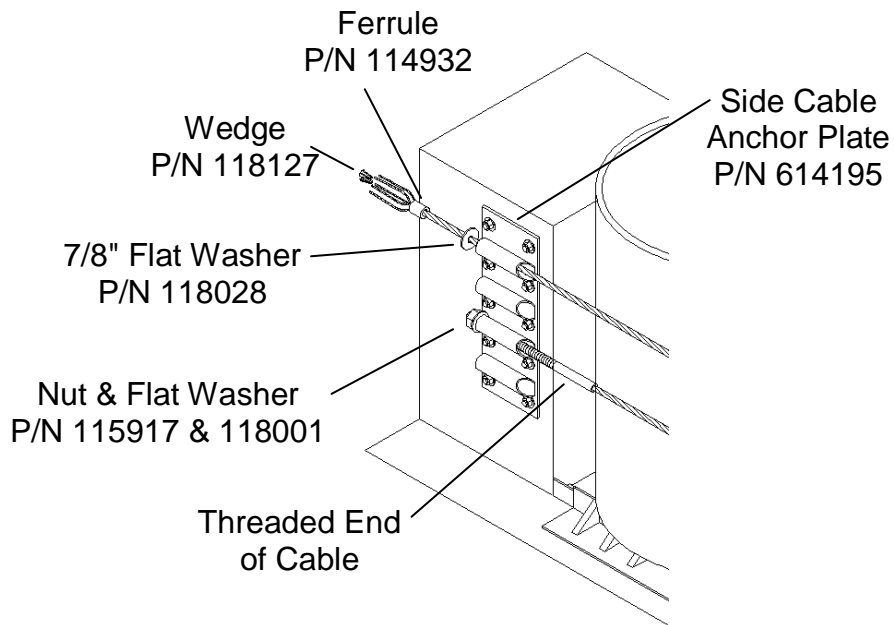

Figure 20
- A. Slide the threaded end of a Restraining Cable through the third guide down and install flat washer and nut as shown in Figure 20. Tighten the nut so it is flush with the end of the threaded end of cable.